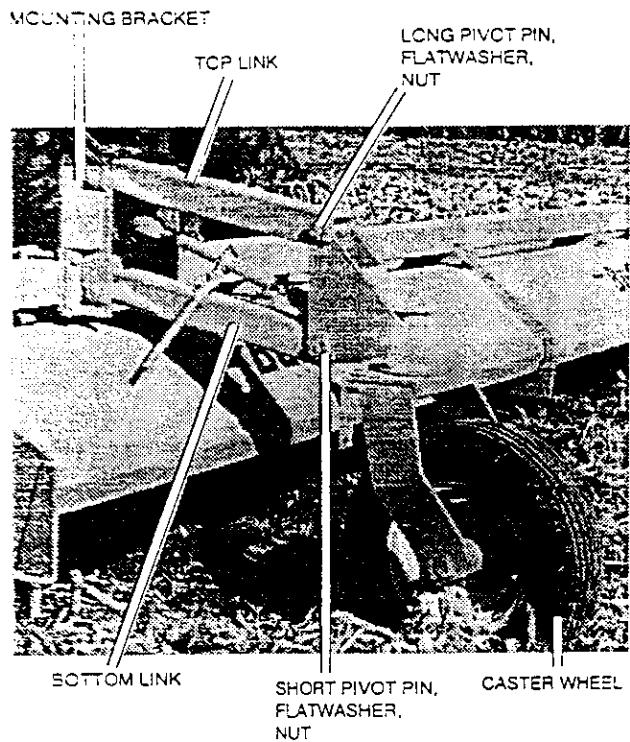

Figure B-10: Caster Wheel.
2. Assemble the mounting bracket set to the square tube that runs the length of the shredder. See Figure B-10.